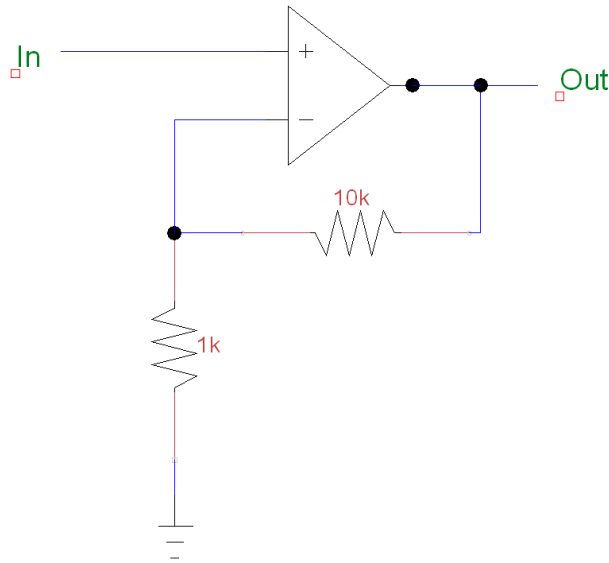

Figure 2. Non-Inverting Amplifier
- [PL3] What is the expected voltage gain of Figure 2? Show the equations for this.
Wire up the non-inverting amplifier shown in Figure 2.